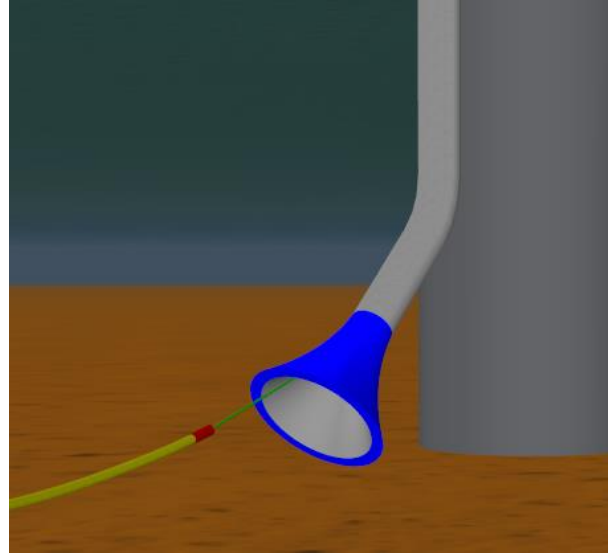

Figure 2-2: Bellmouth Model
- Bellmouths (see Figure 2-2).